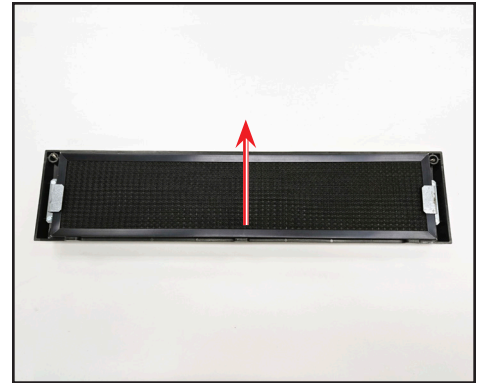

Fig. 2. Slide the air filter out of the brackets.
3. Remove the air filter from the grill. See fig. 2.